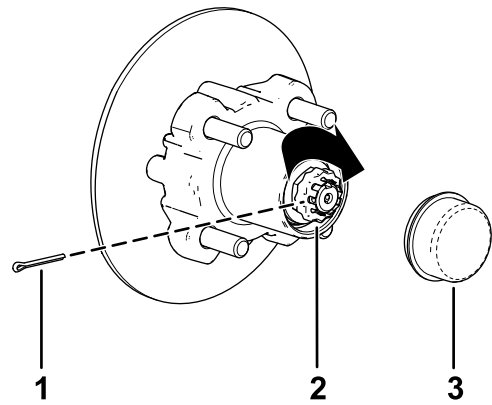

Figure 43
8. Install the retainer over the nut and check the alignment of the slot in the retainer and the hole in the spindle for the cotter pin (Figure 43).
9. Install the cotter pin and bend each leg around the retainer (Figure 43).
10. Install the dust cap onto the hub (Figure 43).